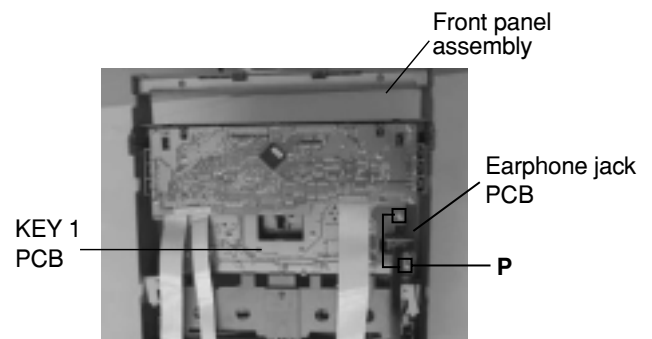

Fig.20
### ■ Removing the earphone jack PCB (See Fig.20)
(See Fig.20 to 23)
4. Remove eleven screws **R** retaining the switch (key 1) PCB.(Fig.20)